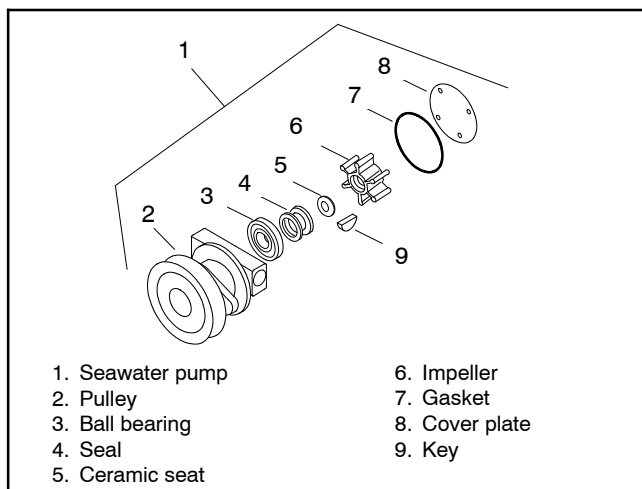

Figure 6-19 Seawater Pump, Typical
5. Remove the seawater pump coverplate. See Figure 6-19.